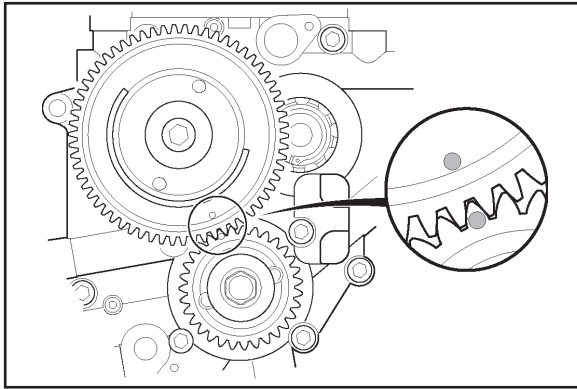

Figure 4
- M. Place transmission in high gear and turn rear wheel to rotate engine so that when the crankshaft pinion gear is installed, the timing mark will line up with the timing mark on the rear cam drive gear. **See Figure 4.**